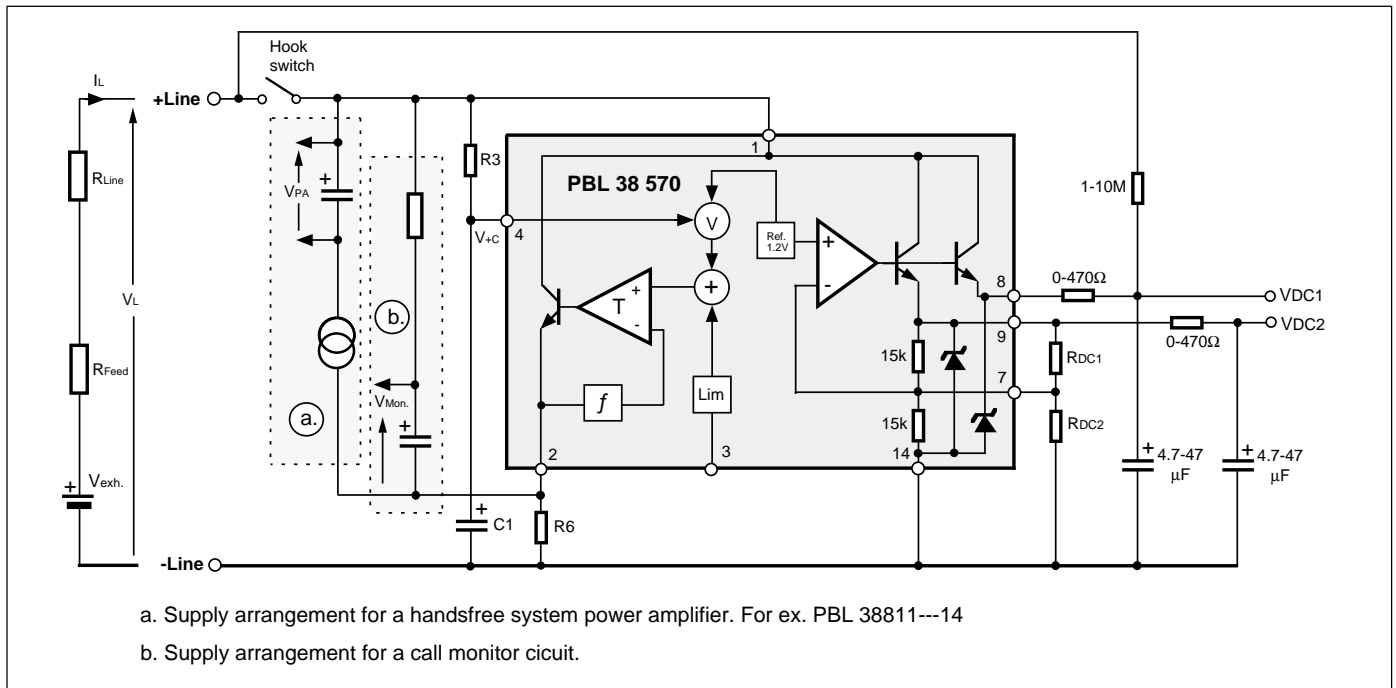

Figure 17. DC-supplies
**Power supplies DC1, DC2, V+C and VPA** (See fig.17)
The fourth DC-supply  $V_{PA}$  has an advantage that it does not influence the circuits DC characteristics even at high current drain. The supply has a floating ground reference in the plus line in order to minimize RFI problems and is used to supply the power amplifier of a handsfree telephone (PBL3881, 38811---14). These circuits have a current controlled charging of the supply capacitor and the control signal is taken across the resistor R6. In case a monitor amplifier is required where the ground reference is hardly necessary, it can be supplied from  $V_{PA}$  or like in alt. b in fig. 17.